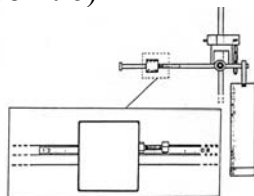

Fig. 28. Roman balance weight for litre weight.
- C) Litre weight** can be measured with a litre measure or a 10-litre bucket. The greater the amount, the more precise the measure. BREDAL offers a Roman balance weight to mount on to the spreader (fig.28). This weight indicates the litre weight directly. (instructions under point 6)